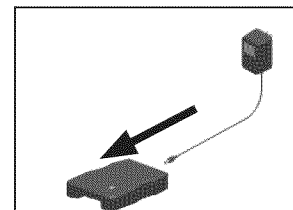

Figure 1 - Plug Charger into Base
1. Plug cord from charger into charger base. (See Figure 1)